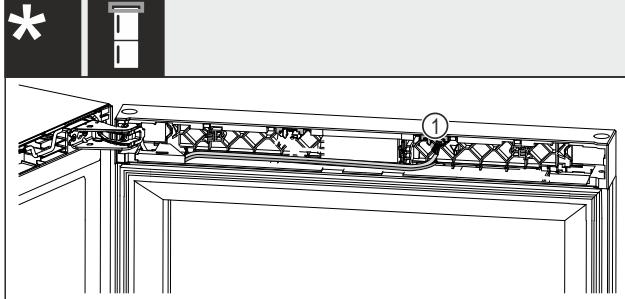

Fig. 23 Wine-freezer combinations*
- ▶ Pull the plug Fig. 23 (1) out of the harness.*